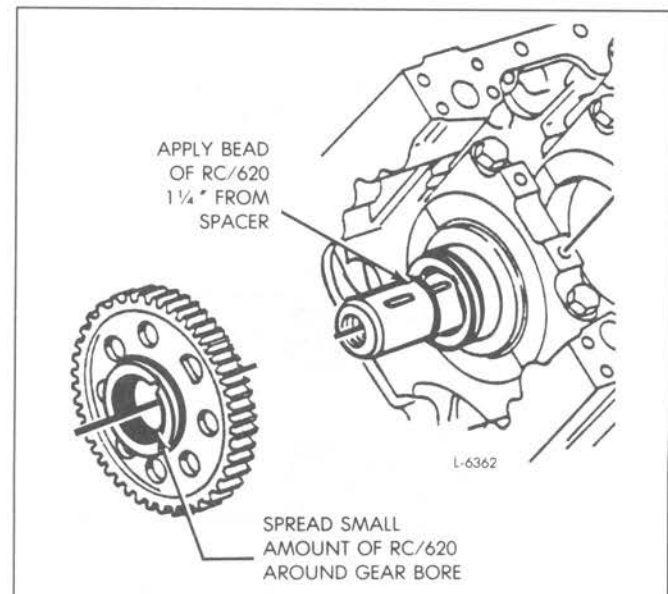

Fig. 7 – Location of Loctite RC/620
5. Shake well before using and apply a small amount of Loctite RC/620 to the gear bore (Fig. 7). Spread the compound to make sure the entire bore is covered. Remove excess compound from the chamfer area of the gear, but do not wipe dry.
6. Apply a *thin bead* of RC/620 around the O.D. of the crankshaft approximately 1-1/4" in front of the installed spacer. Do not spread the bead or wipe dry (Fig. 7).